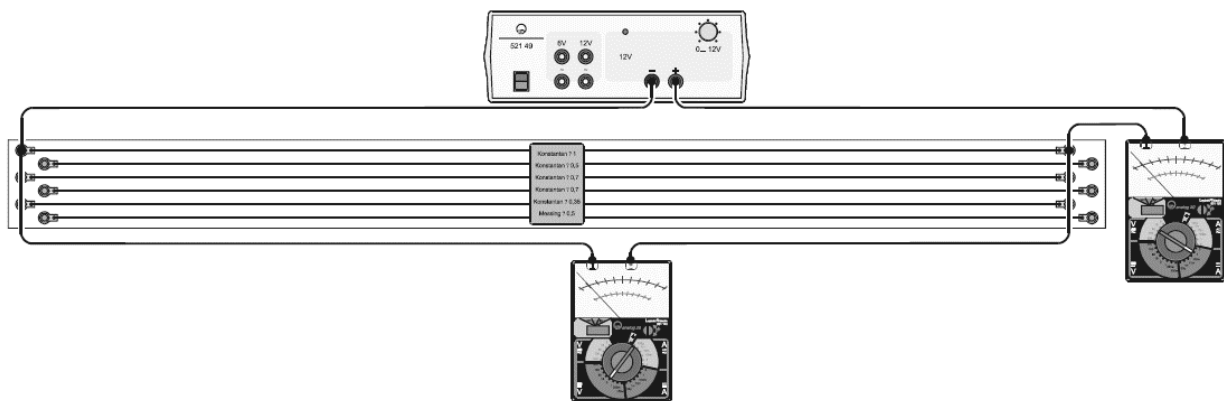

Fig. 31.2. Experimental setup to test Ohm's law
1. Connect a voltmeter in parallel to Wire 1 with a diameter (d) of 1 mm, then connect a current source and an ammeter to it in series (as shown in Fig. 31.2).
6. On one coordinate system, build a plots U vs. I (voltage (U) in horizontal axis and current (I) in vertical axis) for constantan wires of various diameters and find the slope (slope = $\frac{\Delta Y}{\Delta X} = \frac{\Delta U}{\Delta I} = R$).